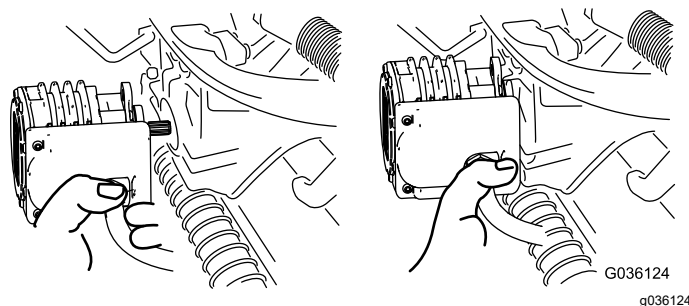

Figure 69
5. Move the motor to the storage location on the front of the suspension arm (Figure 69).